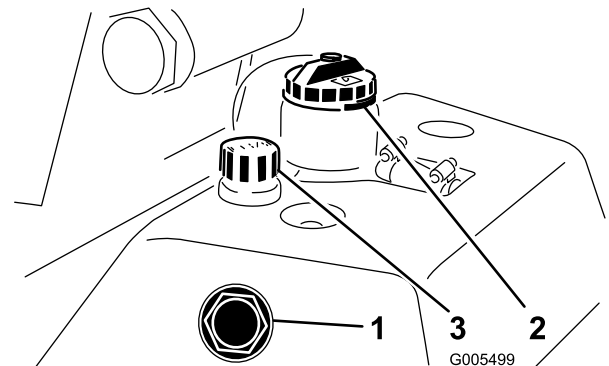

Figure 26
1. Position the machine on a level surface. Make sure the machine has cooled down so the oil is cold. Check the oil level by viewing the sight window on the side of the auxiliary oil tank (Figure 26). If the oil level is between the two marks on the sight window, the oil level is sufficient.